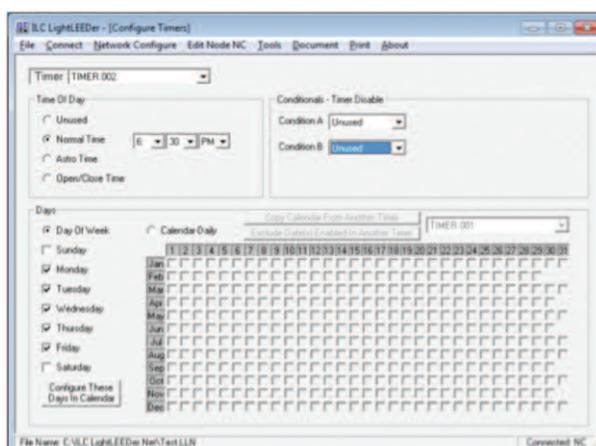

Figure 3.1
**3.7.1 Configure Timers:** For the following programming select the "Edit Node NC" pull-down menu select "Timers", then "Configure Timers" to enter the Configure Timers screen as shown in figure 3.1.